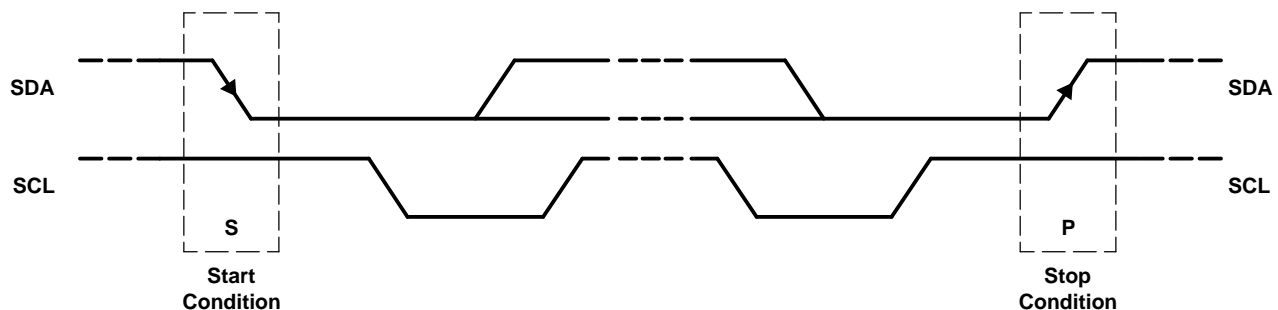

Figure 29. START and STOP Conditions
- The *master* initiates data transfer by generating a *start condition*. The *start condition* is when a high-to-low transition occurs on the SDA line while SCL is high, as shown in Figure 29. All I2C-compatible devices recognize a *start condition*.
- To signal the end of the data transfer, the master generates a *stop condition* by pulling the SDA line from low to high while the SCL line is high (see Figure 29). This releases the bus and stops the communication link with the addressed slave. All I2C-compatible devices must recognize the stop condition. Upon the receipt of a *stop condition*, all devices know that the bus is released, and they wait for a *start condition* followed by a matching address.